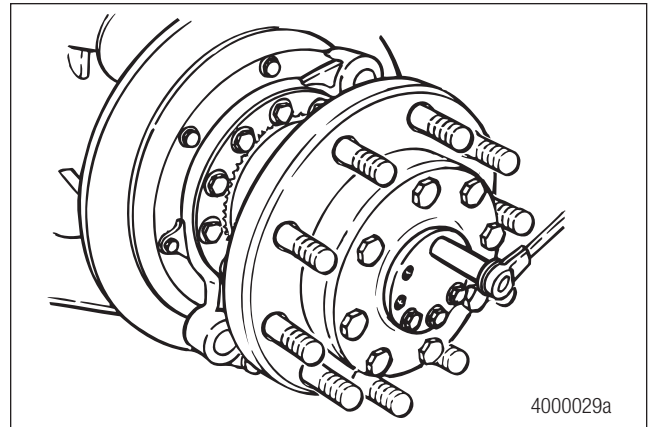

Figure 4.4
1. Remove the capscrews and washers that connect the hubcap to the drive flange. Remove the hubcap. Figure 4.4.